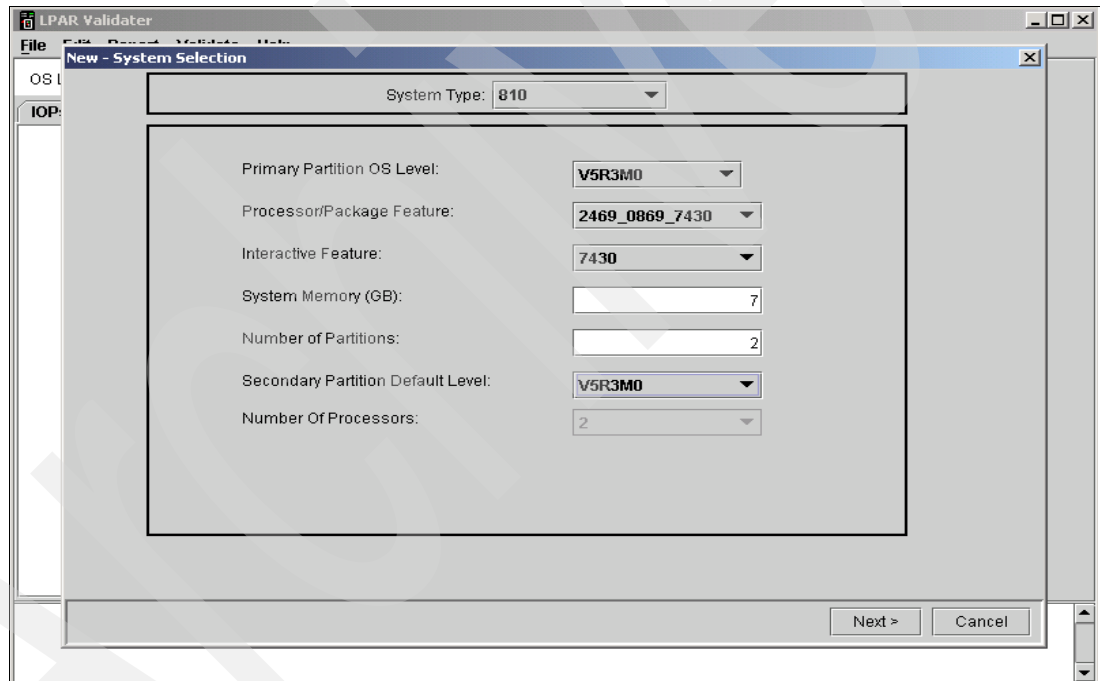

Figure 9-4 Example window System Selection options
- b. Complete the **System Selection** window (each option is described below) and click **Next** (Figure 9-4):